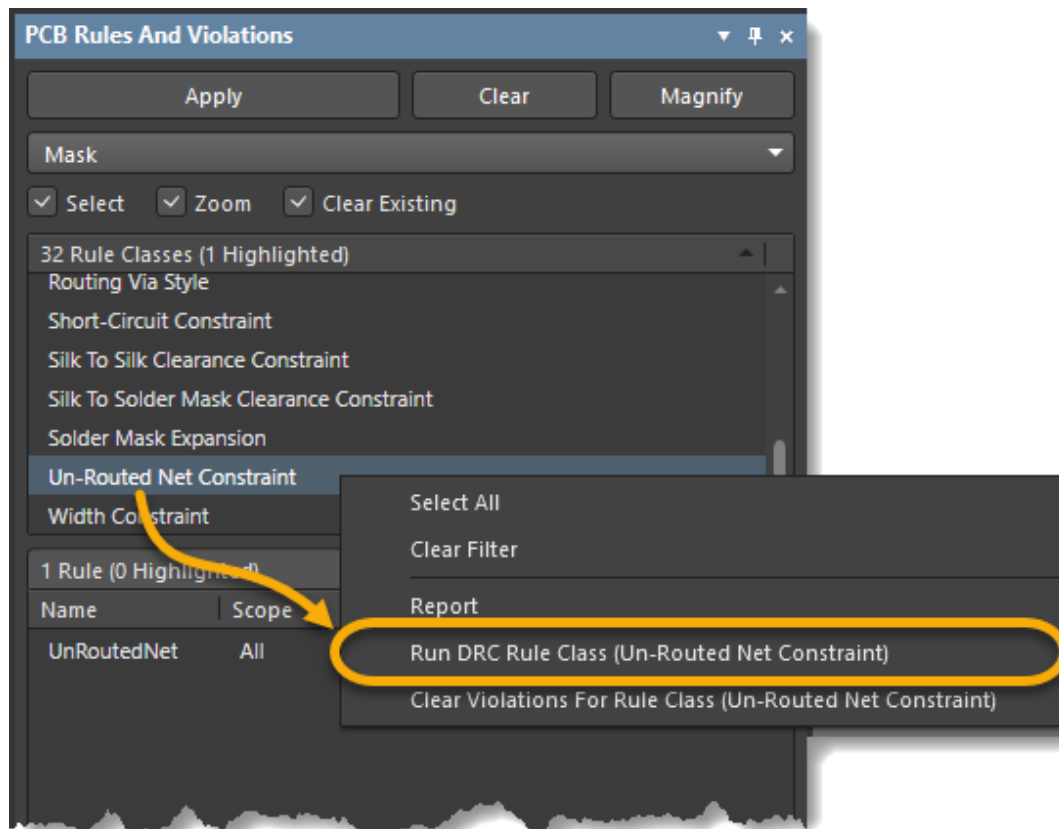

Figure 12. Rule Classes in the PCB Rules and Violations panel
25. Scroll down and right-click on **Un-Routed Net Constraint** in the *Rule Classes* section of the *PCB Rules and Violations* as shown in Figure 12.